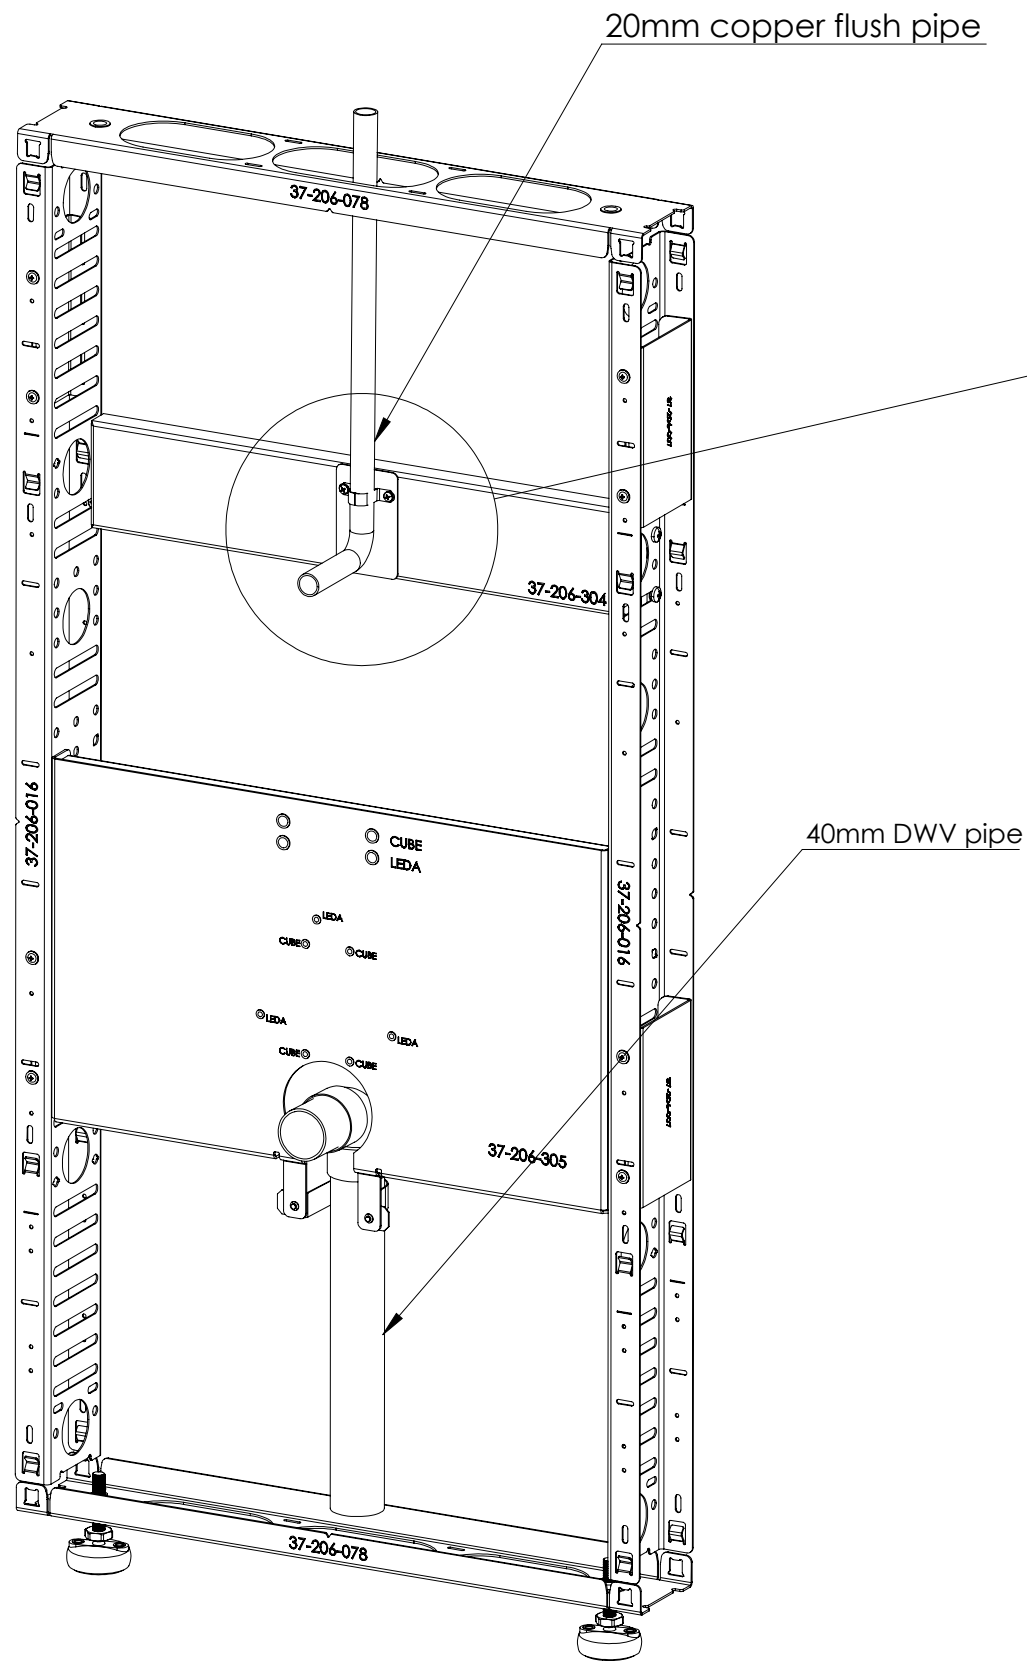
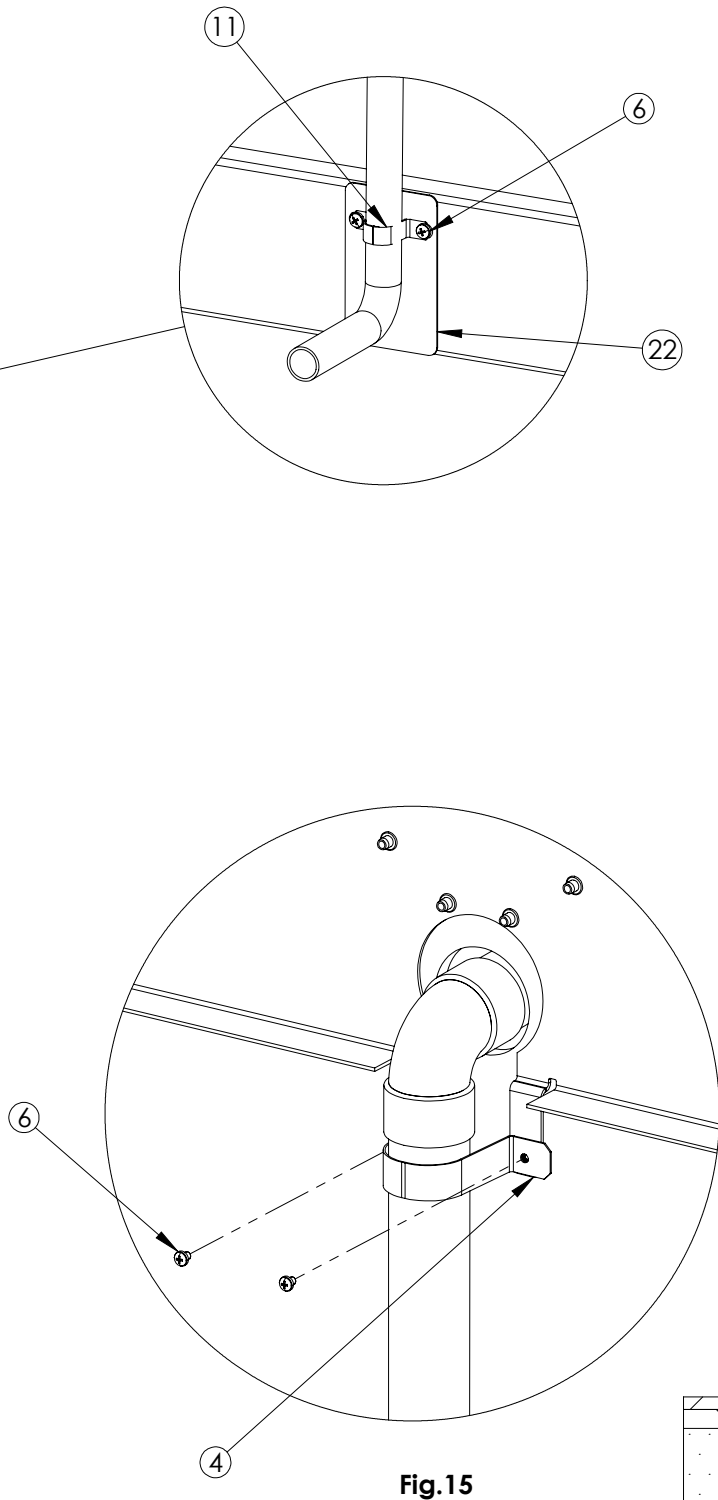

Fig.13
Fig.15
* Fit drilling screws (2) within the hatched area on the frame.
- i) Fit 40mm DWV pipe (not supplied) and 20mm copper flush pipe (not supplied) to the **frame ①** as shown in **Fig. 13** & **Fig. 14**.
Fit rubber pad ②② on bracket ①④ before fitting 20mm copper flush pipe as shown in **Fig. 13**.
- ii) Secure DWV pipe with **40mm saddle clip ④** and copper pipe with **20mm saddle clip ①①** as shown in **Fig. 13** & **Fig. 15**.